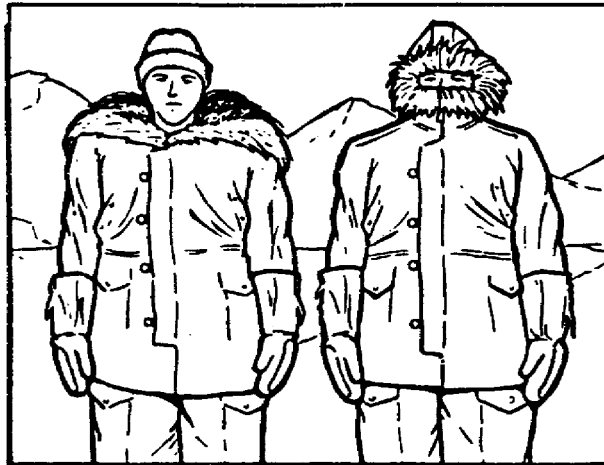

Figure 5. Proper wear of parka.
(6) Other headgear includes the pile cap and hood. These items are most effective in extreme cold when used with a covering for the face. The pile cap is extremely warm where it is insulated, but it offers little protection for the face and back of the neck. The hood is designed to funnel the radiant heat rising from the rest of the body and to recycle it to keep the neck, head, and face warm (Figure 5). Your ability to tolerate cold should dictate the size of the front opening of the hood. The "tunnel" of a parka hood is usually lined with fur of some kind to act as a protecting device for the face. This same fur also helps protect the hood from the moisture expelled during breathing. The closed tunnel holds heat close to the face longer; the open tunnel allows the heat to escape more